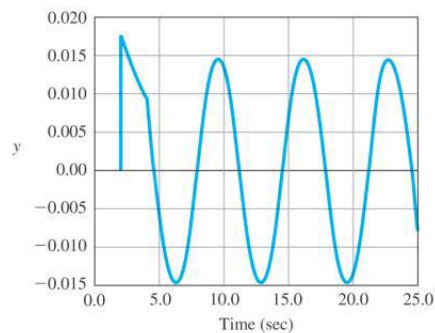

Figure 4.48: Unit impulse response for paper-machine in Problem 4.37
- (b) The system becomes marginally stable for a proportional gain of $K_u = 3.044$ as shown by the unit impulse response in Fig. 4.48. Find the optimal PID-controller parameters according to the Ziegler–Nichols tuning rules.